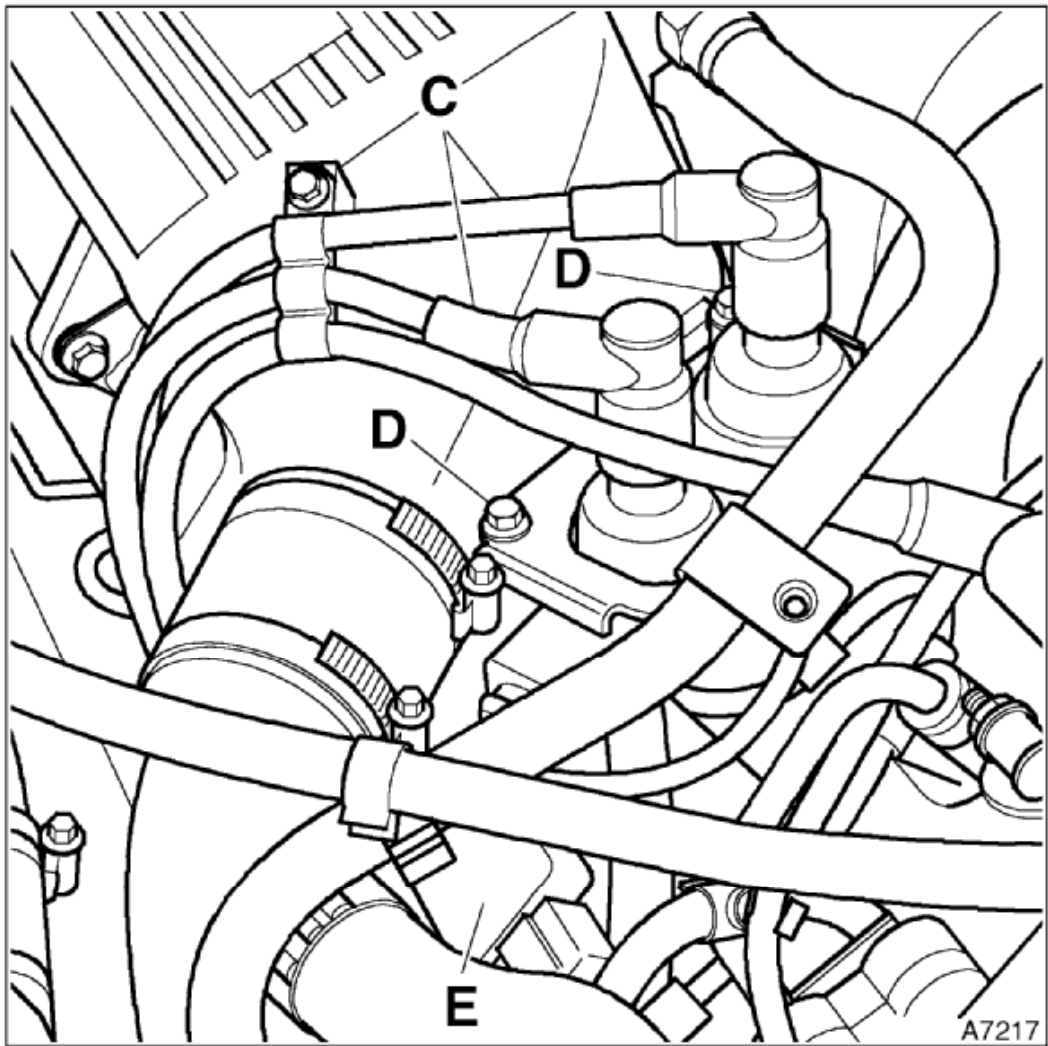

Figure. 3
3. Mark, then disconnect the high tension (HT) leads from A2 and A3 ignition coils C, and remove the two retaining screws D, from the coil mounting bracket. Move the assembly clear of the control box E. See figure 3.